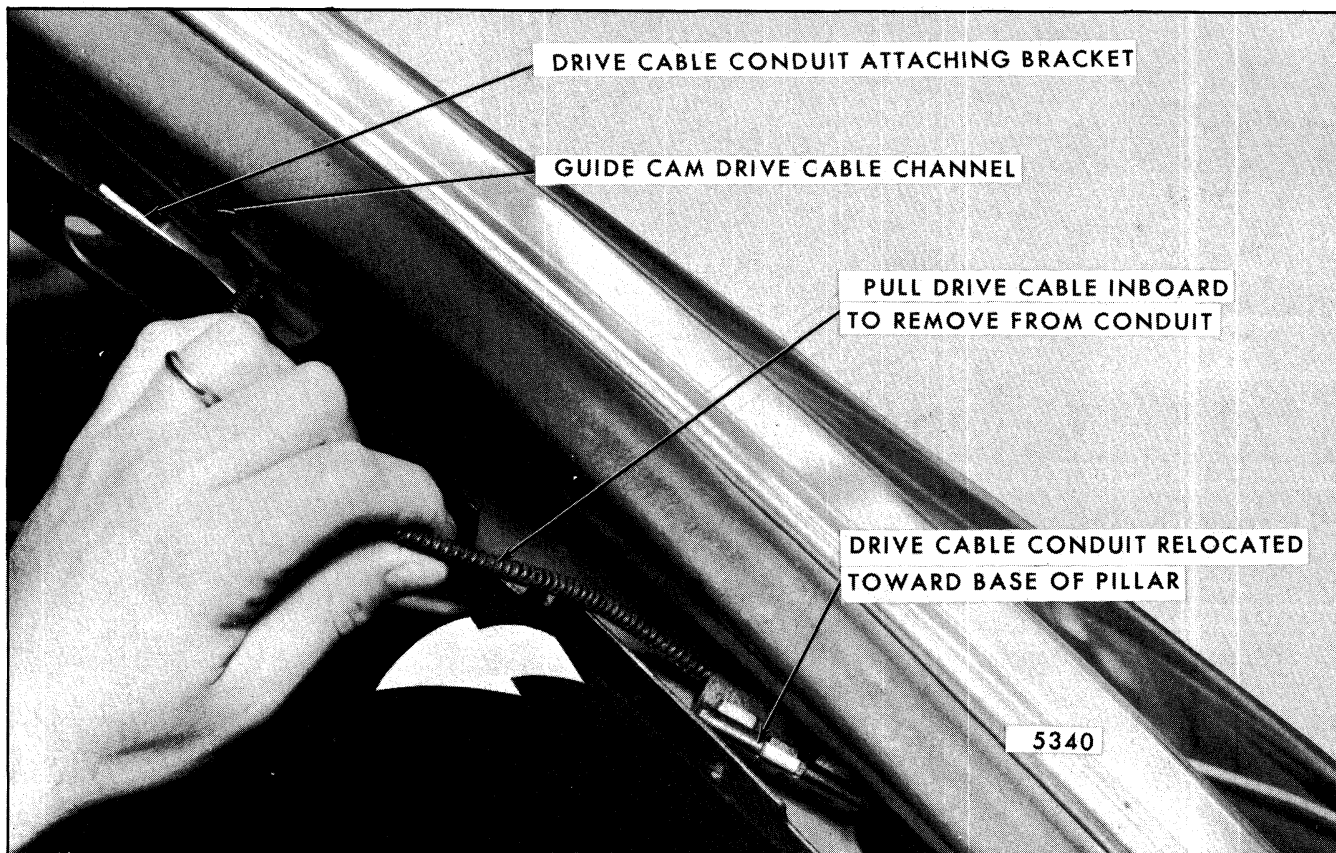

Fig. 7-130-Removing Cable from Conduit
6. Remove two bolts securing cable conduit to guide cam and work conduit down pillar as far as possible and pull cable from conduit (Fig. 7-130).